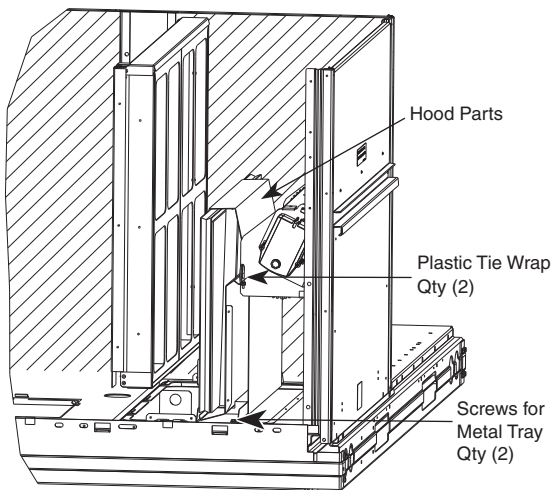

Fig. 11 — Economizer Hood Parts Location
3. Locate the (2) screws holding the metal tray to the basepan and remove. Locate and cut the (2) plastic tie-wraps securing the assembly to the damper. (See Fig. 11.) Be careful not to damage any wiring or cut tie-wraps securing any wiring.